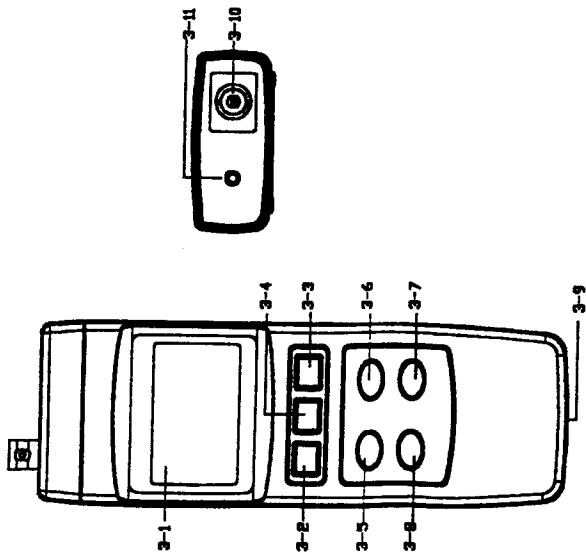

Fig. 1
- 1) Power on the instrument by pressing the " Power Button " ( 3-2, Fig. 1 ).
- 2) Press the " PH/mV Button " ( 3-6, Fig. 1 ) to let meter be operated under the PH function with a " PH " symbol on the display.
Connect the PH ELECTRODE with the " BNC socket " ( 3-10, Fig. 1 ) and immerse the electrode in the PH7 buffer solution.
Press the " CAL Button " ( 3-8, Fig. 1 ) then the upper display shows texts of " CAL " and the lower display shows the default calibration value.
- 1) Connect the PH ELECTRODE to the " PH BNC Input Socket " ( 3-10, Fig. 1 ).
- 2) Power on the instrument by pressing the " Power Button " ( 3-2, Fig. 1 ).
- 3) Press the " PH/mV Button " ( 3-6, Fig. 1 ) to select the PH function with a "PH" symbol on the display
Before the manual temperature compensation calibration procedures, please make sure there are no ATC probe ( YK-200ACT ) in the " Optional Probe Input Socket " ( 3-11, Fig. 1 ).
- 2) Press the " PH/mV Button " ( 3-6, Fig. 1 ) to select the PH function with a " PH " symbol on the display
- 3) " TEMP. C Button " ( 3-7, Fig. 1 ) is used to adjust the following values :
- \* Press the " TEMP. C Button " ( 3-7, Fig. 1 ) first, The upper display will show the measured PH values. the lower display will show the manual temperature compensation value.
- @ Use the " Left Button " ( 3-6, Fig. 1 ), " Up Button " ( 3-5, Fig. 1 ) and the " Down Button " ( 3-8, Fig. 1 ) to adjust the manual temperature compensation value.
- \* When the manual temp. compensation values be adjusted. Press the " TEMP. C Button " ( 3-7, Fig. 1 ) once again to adjust the PH 4 default calibration value.
@ Use the " Up Button " ( 3-5, Fig. 1 ) and the " Down Button " ( 3-8, Fig. 1 ) to adjust the PH 4 default calibration value.
\* When the PH 4 default value be adjusted. Press the " TEMP. C Button " ( 3-7, Fig. 1 ) once again to adjust the PH 7 default calibration value.